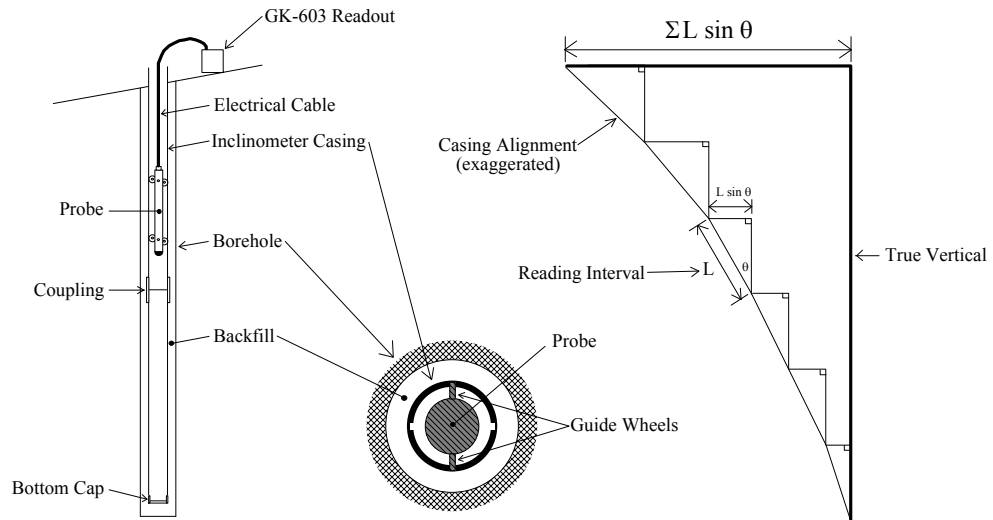

Figure 1.1-3 Inclinometer Survey Description
Subsequent surveys of the inclinometer casing, when compared with the original survey, will reveal any changes of inclination of the casing and locations at which these changes are taking place. Analysis of the change of inclination is best performed by computing the horizontal offset of the upper wheels relative to the lower wheels which has produced the tilting (θ) over the reading interval (L) of the survey (usually the wheel base of the probe, 2 feet for English systems, .5 meter for Metric). At each position of the inclinometer the two readings taken on each axis (A+, A- and B+, B-) are subtracted from each other leaving a measure of $\sin\theta$. This value is then multiplied by the reading interval (L) and the appropriate factor to output horizontal deflection in engineering units (inches for English, centimeters or millimeters for Metric). Appendix E lists the data reduction formulas. Figure 1.1-3 illustrates.